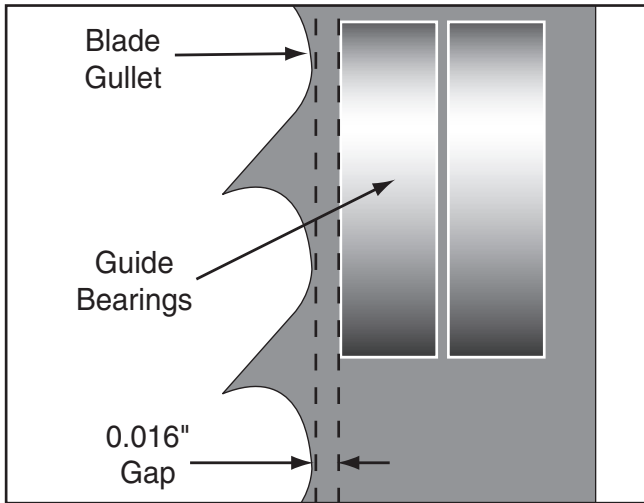

Figure 55. Lateral adjustment of blade guides.
- Loosen the lateral rod cap screw and slide the guide block to position the blade guides approximately 0.016" behind the blade gullets, as illustrated in **Figure 55**.